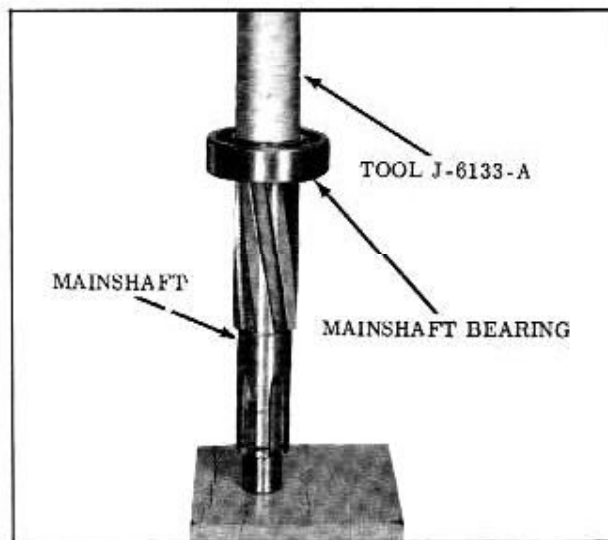

Fig. 10-21 Installing Mainshaft Bearing
1. Install bearing with Tool J-6133. (Fig. 10-21)